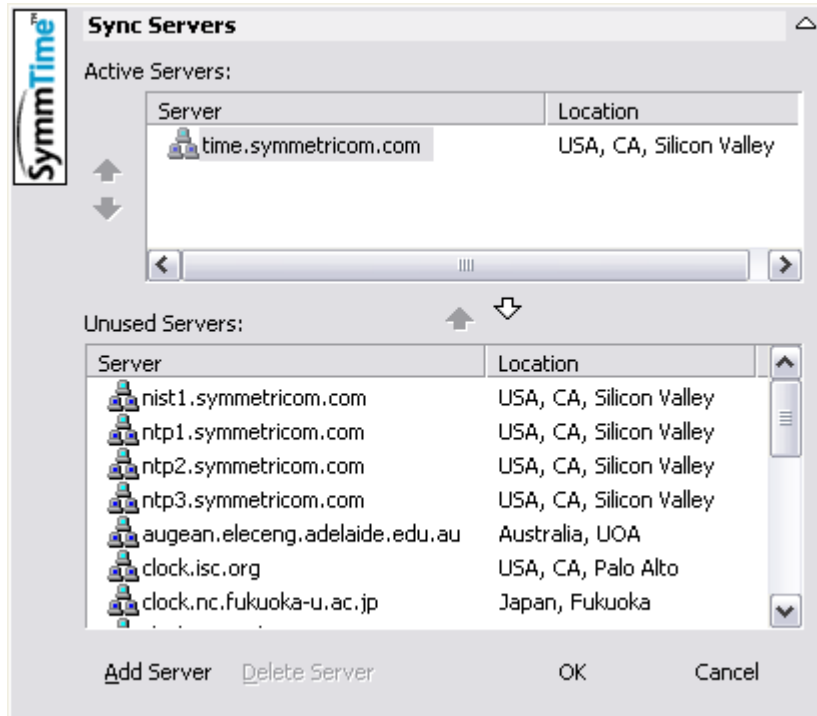

Figure 4-20. The Sync Server Window in SymmTime
2. Right-click anywhere in the SymmTime window and select **Sync Servers....** The Sync Servers window appears similar to the example shown in Figure 4-20.